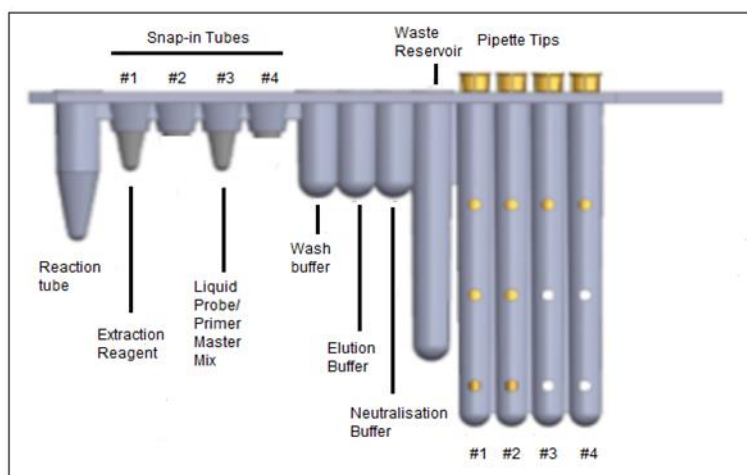

Figure 1: DNA Unitized Reagent Strip setup.
- 2.2.a. Snap a DNA extraction BD Exk-1 Reagent tube (white seal) into position **1** of the DNA Strip, see Figure 1.
- 2.2.b. Snap a ESBL Screen reagent tube (orange seal) into position **3** of the DNA Strip, see Figure 1.